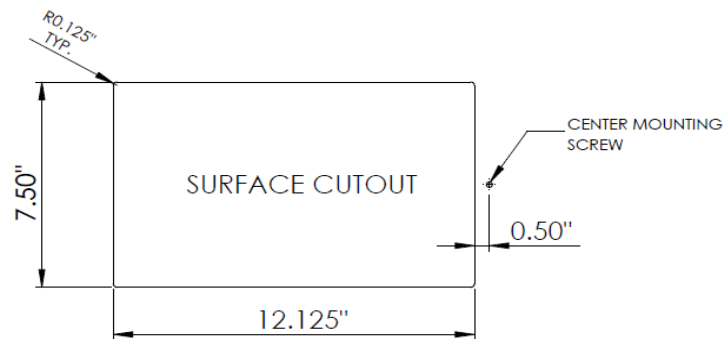

Fig.1
- 1- Provide a cutout in surface for the Marina HDMI at desired location as shown in Fig.1. (Note Fig.1 represents underside of work surface).
- 2- Mark or pilot drill the location for center Mounting screws as shown in Fig.1.
- 1- Install 1 - #10 pan head screw (not provided) into center mounting screw position on underside of work surface, see Fig.1. Do not fully tighten screw at this point*